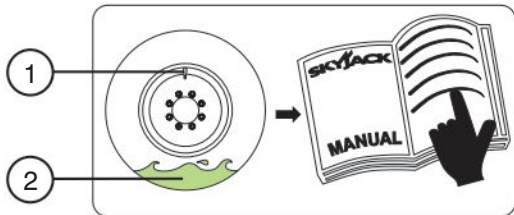

Figure 3-2. Tire Sealant Label
- **When depressurizing, inflating or checking tire pressure, ensure that valve stem is at the top to prevent sealant from entering the stem (refer to Figure 3-2).**